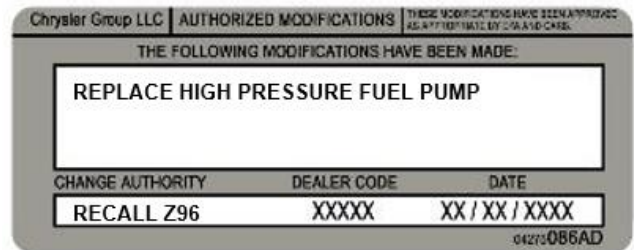

Figure 145 – Authorized Modifications Label
1. Type or print (with a ballpoint pen) the necessary information shown in (Figure 145) onto the authorized modifications Label.